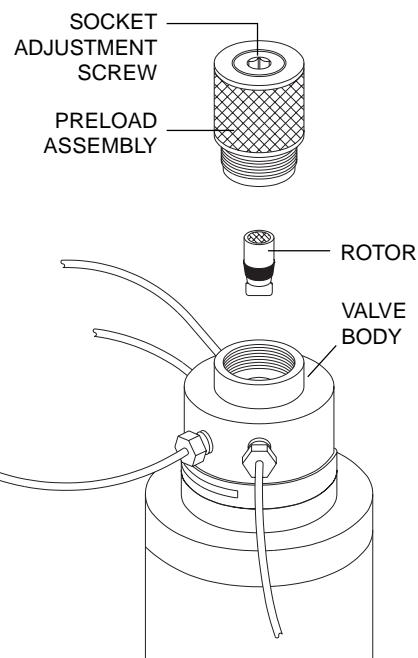

Figure 1: CI4W valve
1. See **Figure 1**. Unscrew the pre-load assembly. Do not tamper with the socket adjustment screw.